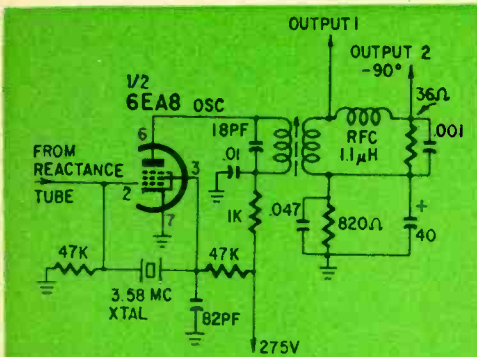

Fig. 4—Pentode Pierce oscillator generates 3.58-mc subcarrier. Same kind of circuit used with pentagrids in AM sets.
4. The 3.58-mc oscillator. This is usually a standard crystal oscillator circuit. Sometimes it's even a Pierce, which is about as simple as you can get. Tube, crystal, and a few oddments like plate voltage and stuff. Fig. 4 shows a typical oscillator circuit, which, come to think of it, is a Pierce, the original version. This uses the screen grid as the oscillator plate, leaving the real plate free to take off the 3.58-mc signal. (Is this unusual? How about the oscillator circuit in some small radios where a pentagrid tube is used as mixer-oscillator? The screen's the oscillator plate, and the i.f. signal is taken from the real plate. Same thing.)